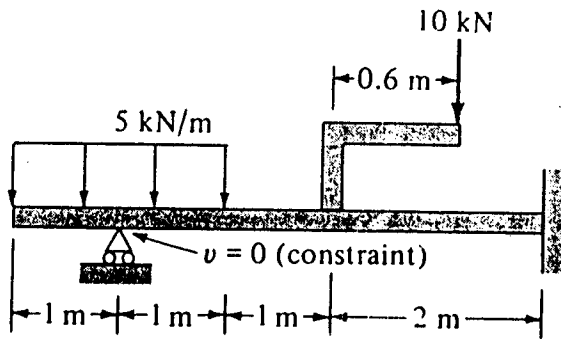

Fig. 3
3. (25pts) For the beam shown in Fig. 3, determined (a) the equation for the elastic curve, and (b) the maximum displacement between the supports. Also draw the shear and moment diagrams.